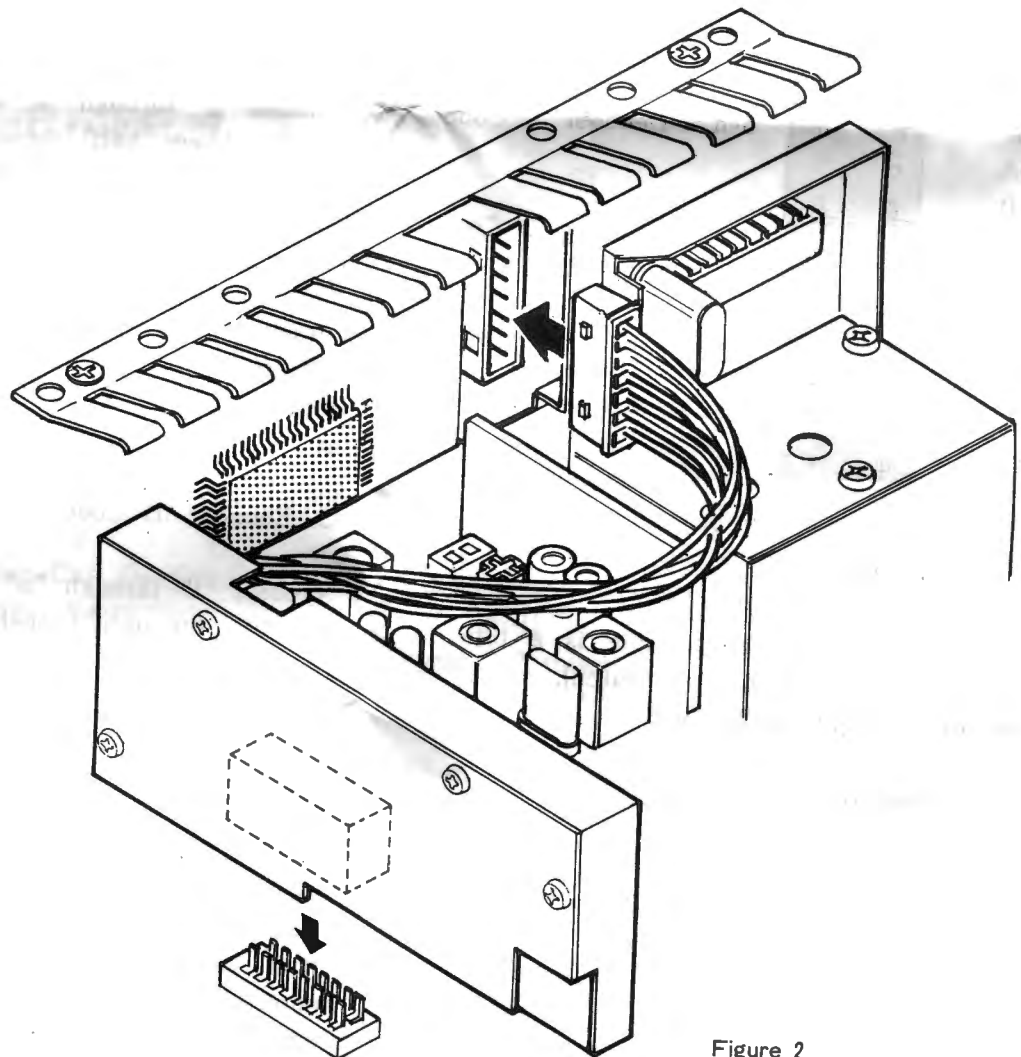

Figure 2
- (3) Connect 16-pin connector P01 from the F5D-9 to J1009 on the Main Unit of the transceiver, and install the 7-pin plug from the F5D-9 into the jack on the digital selector (Figure 2).
- (4) Replace the bottom cover and five screws.